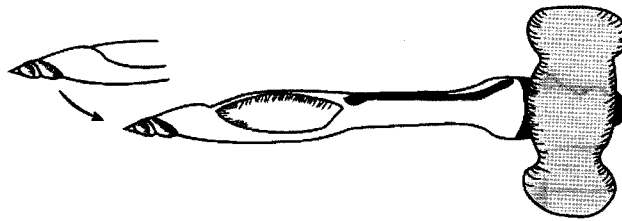

Figure 3
- (b) **Figure 3** shows a gimlet.